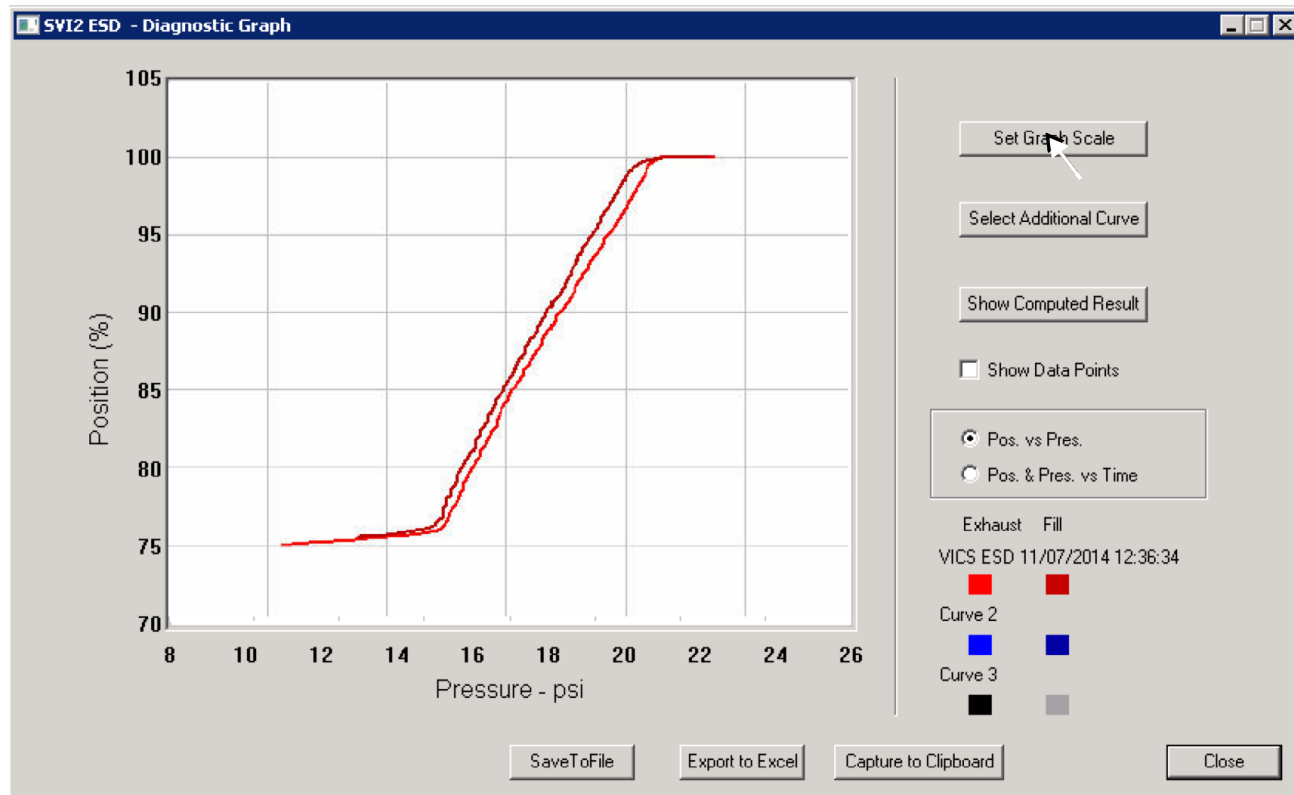

Figure 264 - Selecting Set Graph Scale
1. Select **Set Graph Scale** (*Figure 264*).